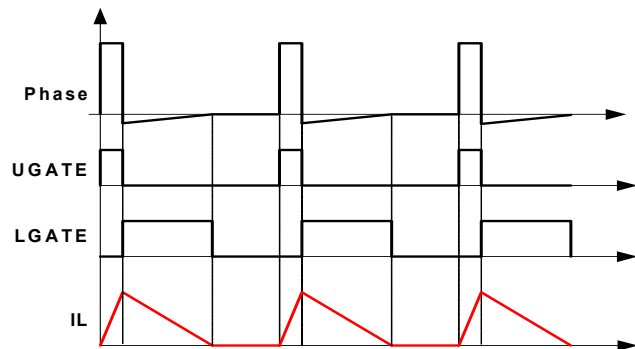

FIGURE 5. DIODE EMULATION
ISL95836 can operate in diode emulation (DE) mode to improve light load efficiency. In DE mode, the low-side MOSFET conducts when the current is flowing from source to drain and doesn't allow reverse current, emulating a diode. As Figure 5 shows, when LGATE is on, the low-side MOSFET carries current, creating negative voltage on the phase node due to the voltage drop across the ON-resistance. The controller monitors the current through monitoring the phase node voltage. It turns off LGATE when the phase node voltage reaches zero to prevent the inductor current from reversing the direction and creating unnecessary power loss.
If the load current is light enough, as Figure 5 shows, the inductor current will reach and stay at zero before the next phase node pulse and the regulator is in discontinuous conduction mode (DCM). If the load current is heavy enough, the inductor current